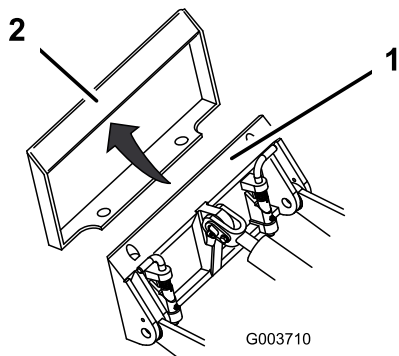

Figure 13
4. Position the mount plate into the upper lip of the attachment receiver plate (Figure 13).